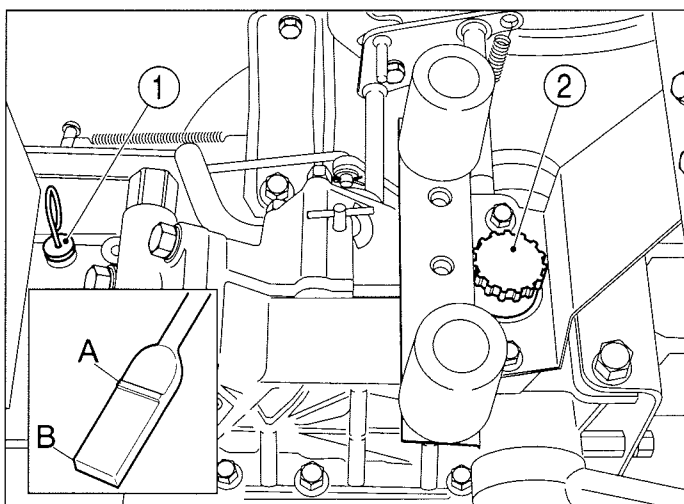

FIG. 76
FIG. 76: To Check Transmission Oil Level - Park the tractor on level ground and remove the dipstick (1). Oil level should be indicated between the upper limit A and the end of dipstick B.